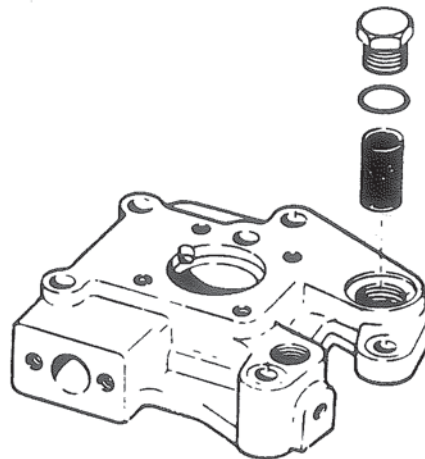

Figure 48. Installing Oil Strainer.
3. **Oil Strainer.** Install the oil strainer into its bore in the selector valve and rear cover. Figure 48. Install the O-ring and plug to cover the strainer opening in the valve body.